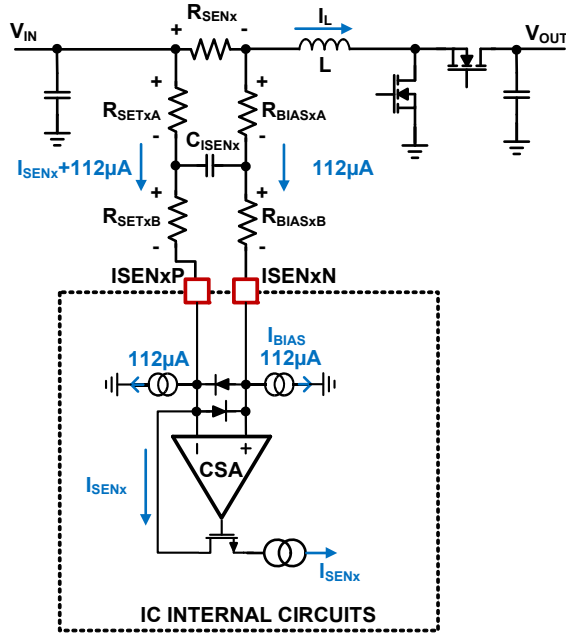

FIGURE 60. CURRENT-SENSING BLOCK DIAGRAM
The ISL78227 peak current control architecture senses the inductor current continuously for fast response. A sense resistor is placed in series with the power inductor for each phase. The ISL78227 Current Sense Amplifiers (CSA) continuously sense the respective inductor current as shown in Figure 60 on page 31 by sensing the voltage signal across the sense resistor, R_{SENx} (where "x" indicates the specific phase number and same note applied throughout this document). The sensed current for each active phase is used for peak current mode control loop, phase current balance, individual phase cycle-by-cycle peak current limiting (OC1), individual phase overcurrent fault protection (OC2_PEAK), input average Constant Current (CC) control and average overcurrent protection (OC_AVG), diode emulation, and phase drop control. The internal circuitry shown in Figure 60 represents a single phase. This circuitry is repeated for each phase.
The RC network between the R_{SENx} and $I_{SENxP/N}$ pins as shown in Figure 60 is the recommended configuration. The I_{SENxP} pin should be connected to the positive potential of the R_{SEN_CHx} through resistor R_{SETx} , where in Figure 60, R_{SETx} is composed by R_{SETxA} plus R_{SETxB} . R_{SET} is used to set the current sense gain externally.
Because there is an $112\mu A$ bias current sinking to each of the I_{SENxP} and I_{SENxN} pins, R_{BIASx} with the same value to R_{SETx} should be placed between the I_{SENxN} pin to the low potential of the R_{SENx} , where in Figure 60, R_{BIASx} is composed by R_{BIASxA} plus R_{BIASxB} .
It is recommended to have $R_{SETxA} = R_{BIASxA}$ and $R_{SETxB} = R_{BIASxB}$, and insert a capacitor (C_{ISENx}) between them as shown in Figure 60. This will form a symmetric noise filter for the small current sense signals. The differential filtering time constant equals to $(R_{SETxA} + R_{BIASxA}) \cdot C_{ISENx}$. This time constant is typically selected in range of tens of ns depending on the actual noise levels.